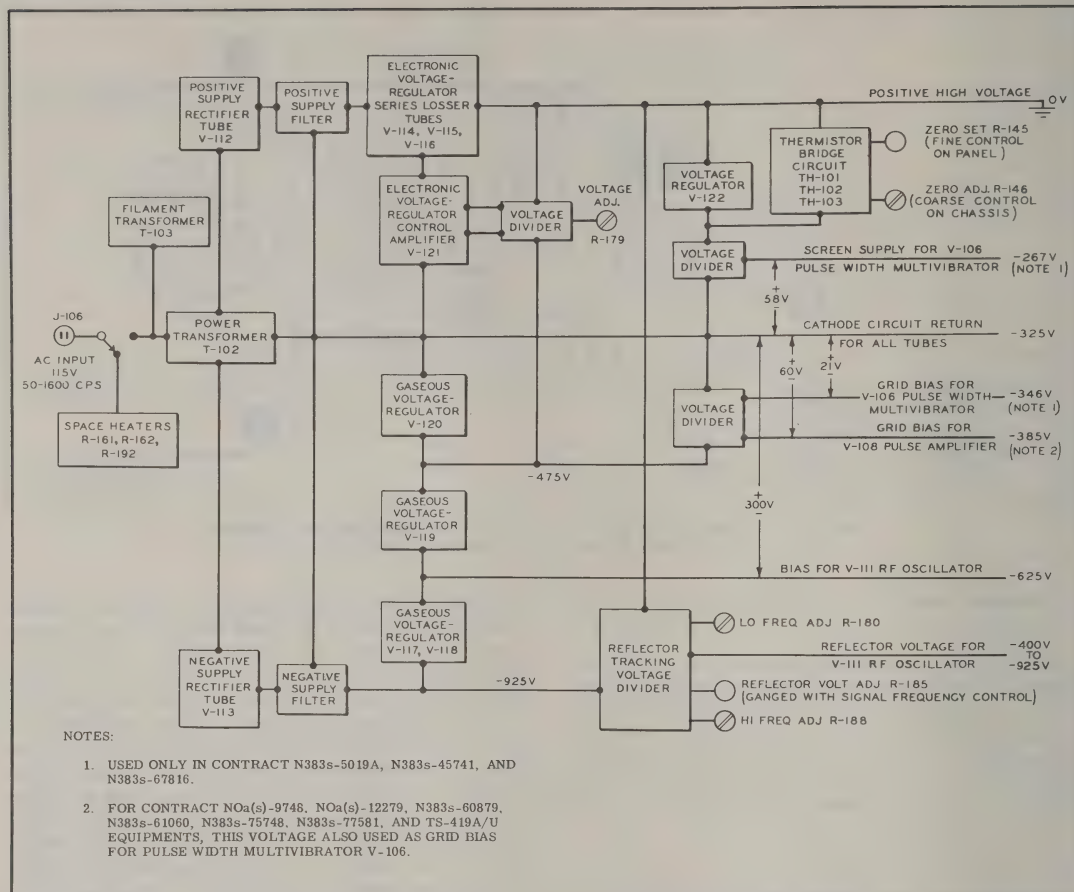

Figure 3-10. Signal Generator TS-419/U, Power Supply, Block Diagram
6. POWER SUPPLY. (See figures 3-10, 7-1, 7-1A, and 7-1B.)